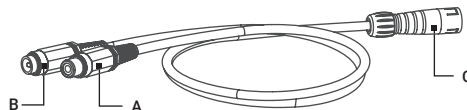

FIGURE 2-11. VIDEO CABLE
Use the video cable plug (A, Figure 2-11) to connect an external video recorder/monitor/TV to the Victrix. Connect the video cable plug (C) to the Victrix S620 universal connector.